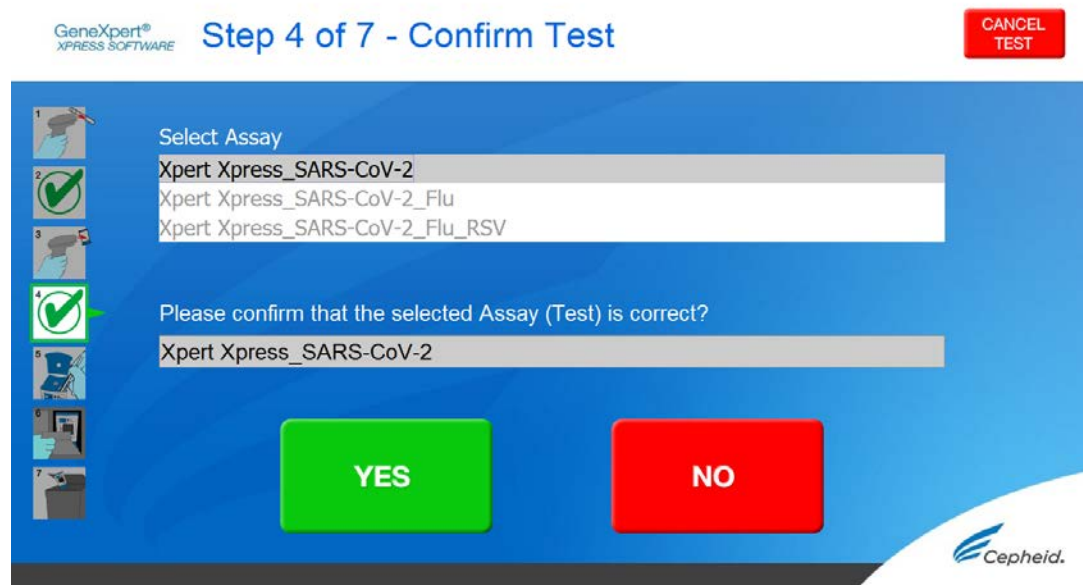

Figure 8. Confirm Test Screen – Select Assay
3. Make the appropriate selection from the Select Assay menu, as shown in Figure 8.